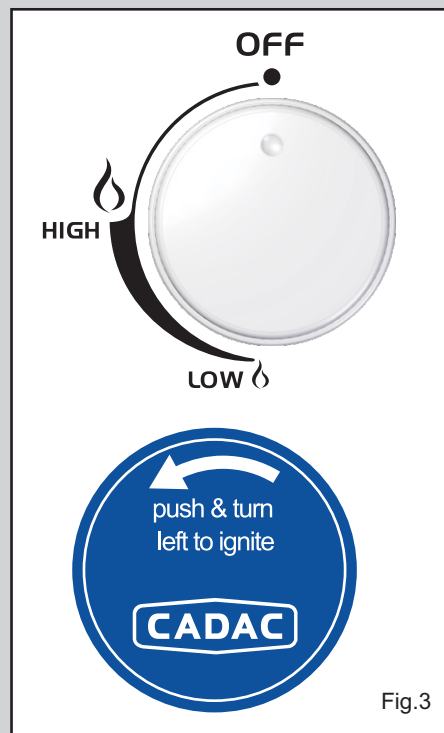

Fig.3
- Use the control knobs to adjust the individual burner flame intensity to the desired level by turning the knob anti-clockwise to decrease the flame and clockwise to increase it (see fig.3).